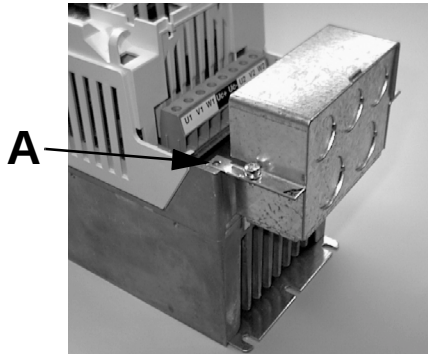

FIG. 19 - Positioning the conduit box for type IP 21 / NEMA Type 1 drives.
Assemble the conduit box by mating the two conduit box halves and securing them with two of the supplied screws with captive washers (assembled box shown in *Figure 19*). After removing the cover from the drive, position the conduit box as shown below so the holes in the conduit box line up with the appropriate holes in the drive (A).